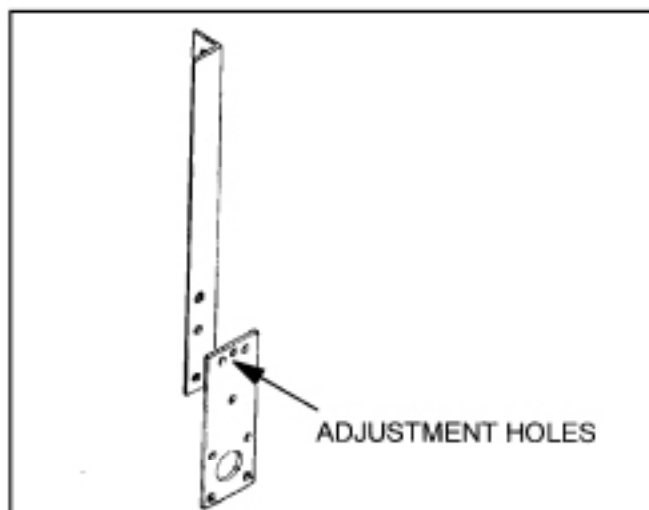

Figure 33 Adjustment Plate
2. Adjust wheels by removing bolt in angle and turning adjustment plate as shown in Figure 33.